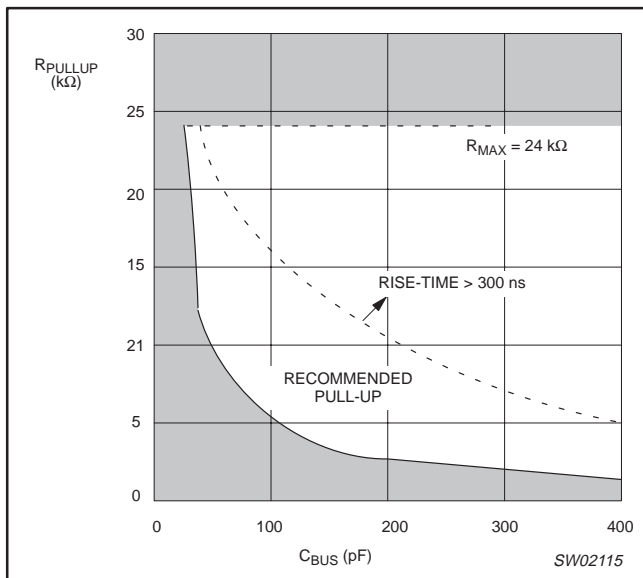

Figure 5. Bus requirements for 3.3 V systems
In addition, regardless of the bus capacitance, always choose R ≤ 16 kΩ for VCC = 5.5 V maximum, R ≤ 24 kΩ for VCC = 3.6 V maximum. The start-up circuitry requires logic HIGH voltages on SDAOUT and SCLOUT to connect the backplane to the card, and these pull-up values are needed to overcome the precharge voltage. See the curves in Figures 5 and 6 for guidance in resistor pull-up selection.
The device connection circuitry requires a minimum capacitance loading on the SDA and SCL pins in order to function properly. The value of this capacitance is a function of VCC and the bus pull-up resistance. Estimate the bus capacitance on both the backplane and the card data and clock buses, and refer to Figures 5 and 6 to choose appropriate pull-up resistor values. Note from the figures that 5 V systems should have at least 47 pF capacitance on their buses and 3.3 V systems should have at least 22 pF capacitance for proper operation of the PCA9512. Although the device has been designed to be marginally stable with smaller capacitance loads, for applications with less capacitance, provisions need to be made to add a capacitor to ground to ensure these minimum capacitance conditions if oscillations are noticed during initial signal integrity verification.
**NOTE:** Application assumes bus capacitance within "proper operation" region of Figures 5 and 6.
**NOTE:** Application assumes bus capacitance within “proper operation” region of Figures 5 and 6.